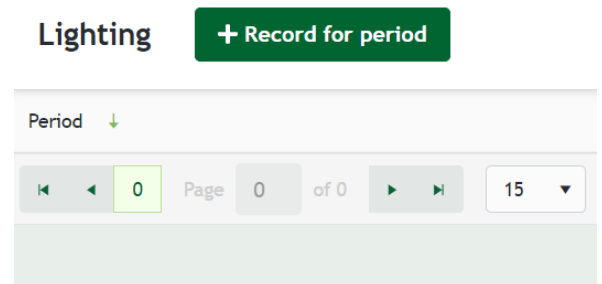

Figure 15
2. A new screen will open as shown in figure 15.